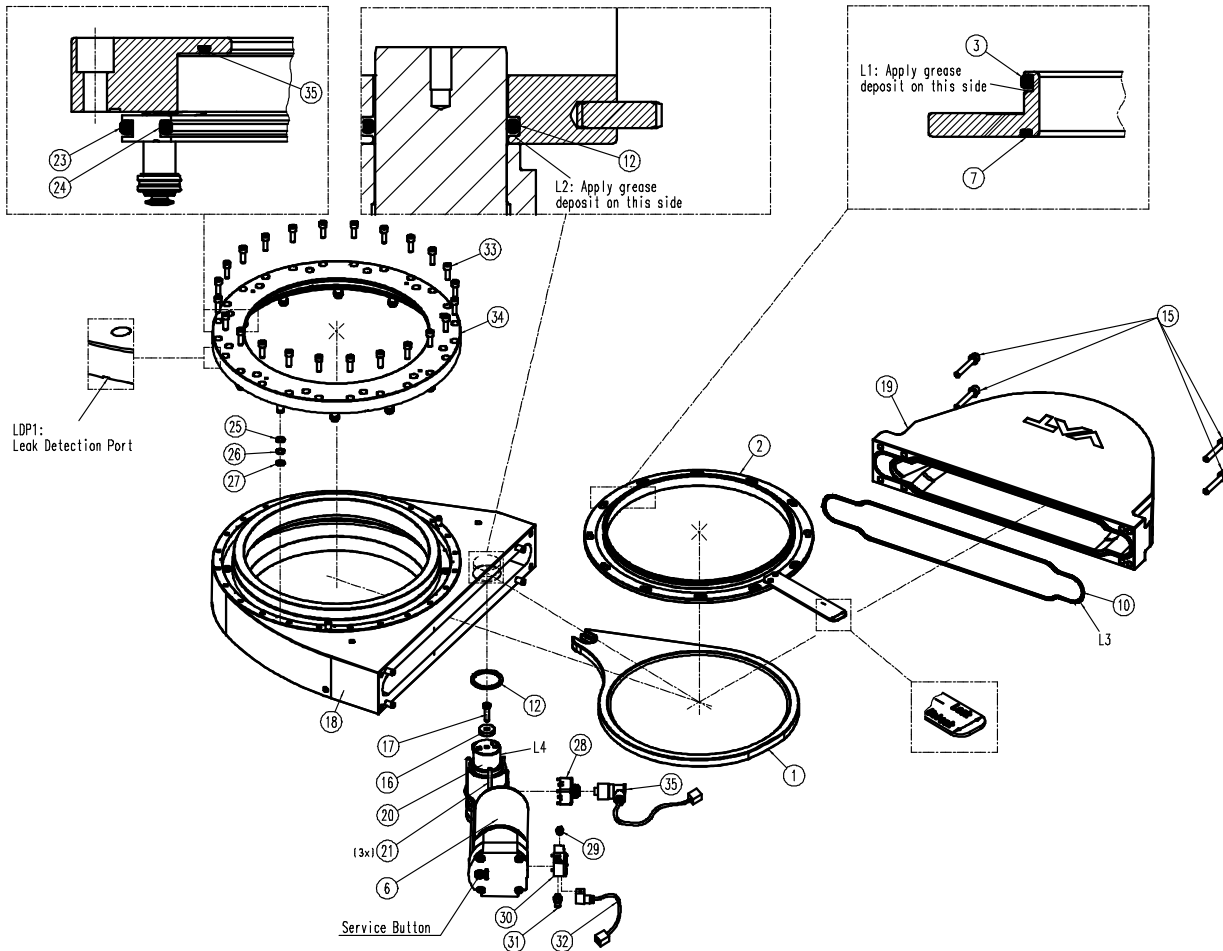

Figure 12-1
7. Remove the gate fixation screw (17).
8. Pull out the gate (1) from the actuator shaft (20).
9. Place the gate (1) on a clean surface.
Push the service button during this step; see «Figure 12-1» on page 28 and unlock the sealing ring (2) by moving / turning into the “Unlock” position.
10. Remove the sealing ring (2) from the valve body (18).
11. Place the sealing ring (2) on a clean surface.
12. Remove the gate seal (7) and the dynamic seal (3) from the sealing ring (2); use O-ring removal tool.
13. Clean the sealing ring (2), the dynamic seal (3) and the gate seal (7); use cleanroom wiper.
14. Replace the gate seal (7) and / or the dynamic seal (3) of the sealing ring (2) if necessary.
15. Uniformly lubricate the dynamic seal (3) with the amount of grease specified in chapter «6.2 Lubrication specifications»; lubrication location L1.
16. Install the dynamic seal (3) on the sealing ring (2).
17. Install the gate seal (7) into the sealing ring (2).
18. Clean the gate (1) especially the sealing surfaces of the gate; use cleanroom wiper.
19. Clean the valve body (18) and especially sealing surfaces of the dynamic seal (3) of the valve body (18); use cleanroom wiper.
20. Insert the sealing ring (2) into the valve body (18).
Push the service button during this step; see «Figure 12-1» on page 28 and lock the sealing ring (2) by moving / turning into the “Lock” position.
21. Locate the gate (1) on the actuator shaft (20) below the alignment piece (16).
22. Push the gate (1) into the direction of the actuator axis to the hard stop.
23. Fasten the gate fixation screw (17) according the type of the screw.